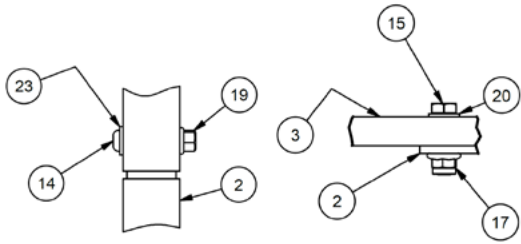

Figure 3
② Assemble K-frame (see Fig. 3) and handle (see Fig. 4).